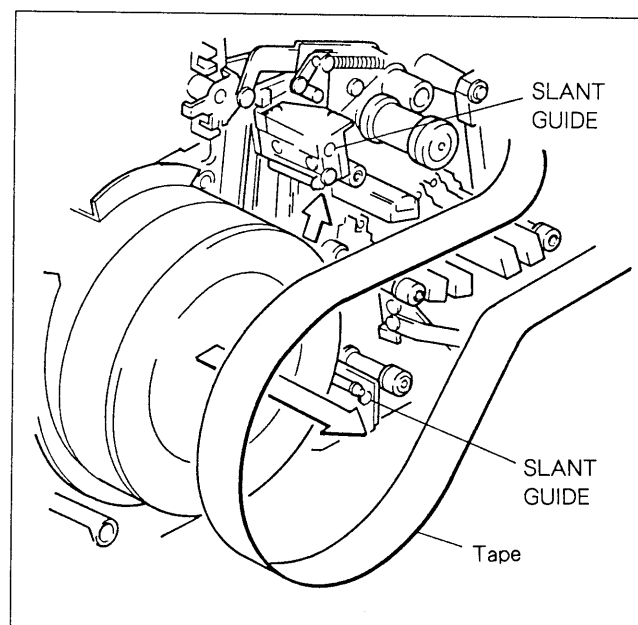

Fig. 9-14-4. Tape Edge Damage Check (3)
- (4) Judge the tape damage according to a result of steps (2) and (3) as follows.
- ① In case when there is barely white powder (step 2) and no tape's upper edge damage (step 3):
- ② In case when there is a slight white powder but no tape's upper edge damage:
- ③ In case when there is not only white powder but also barely tape's upper edge damage:
6. In case when there is a tape edge damage, perform the following adjustment. (Refer to Fig. 9-14-4.)